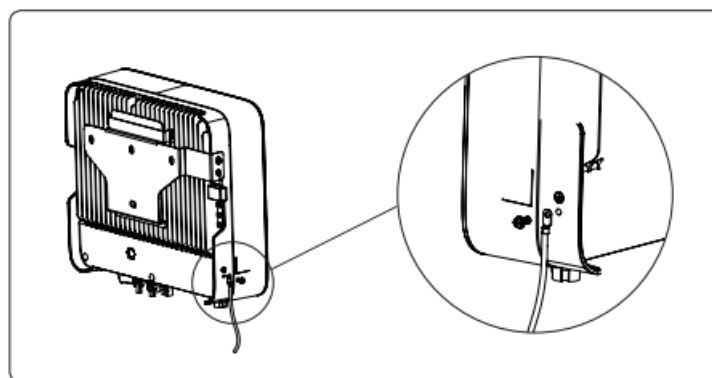

Figure 4-19 Grounding terminal connection
2. Fix the grounding terminal to the PE wire with a proper tool and lock the grounding terminal to the grounding hole in the lower right side of the inverter, as shown in Figure 4-19.